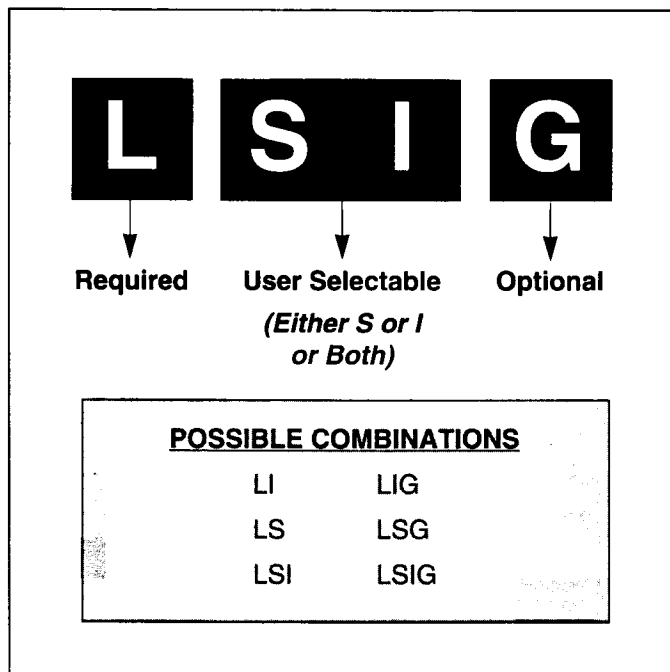

Figure 3-4 Overcurrent Protective Function Combinations
- ① No ground fault alarm (A) provided
② Refer to para. 3-2.3 and Figure 3-4 for details
③ Setting Tolerance ±5%
④ Setting Tolerance +0-30%
⑤ Setting Tolerance +10-40%
- ⑥ Setting Tolerance (See time-current curves)
⑦ Setting Tolerance ±10%
⑧ Setting Tolerance ±20%
⑨ Only available with LSIA
⑩ Is (L & N-Frame), In (R-Frame, SPB, DSII/DSLII)
① No ground fault alarm (A) provided
③ Setting Tolerance  $\pm 5\%$
⑥ Setting Tolerance (See time-current curves)
⑦ Setting Tolerance  $\pm 10\%$ ⑧ Setting Tolerance  $\pm 20\%$
⑩  $I_s$  (L & N-Frame),  $I_n$  (R-Frame, SPB, DSII/DSLII)
All Digitrip OPTIM Trip Units are available in six overcurrent protective function combinations of long, short, instantaneous and ground (Figure 3-4). When the protection functions are combined with slope adjustments  $I^4t$ ,  $I^2t$  or Flat, the Digitrip OPTIM Trip Unit provides the following ten programmable curve shaping possibilities:
All Digitrip OPTIM Trip Units provide programmable long delay protection consisting of (Tables 3.2 and 3.3 and Figure 3-4):
Short delay protection is selectable with all Digitrip OPTIM Trip Units. It can be selected in combination with instantaneous protection or without instantaneous protection. Either both, one or the other (short or instantaneous) must always be provided (Tables 3.2 and 3.3 and Figure 3-4). Short delay protection can consist of the following: